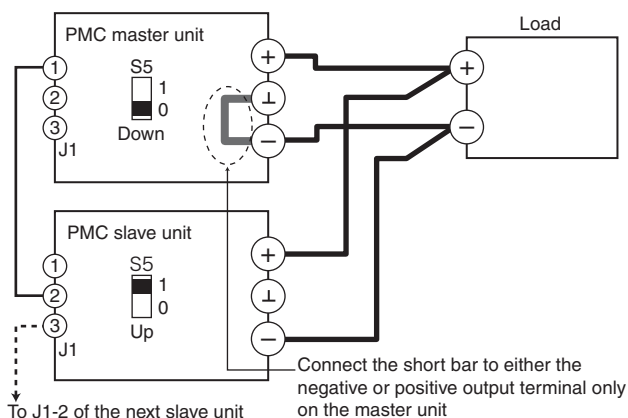

Fig. 4-3 Master-slave parallel connection and setup
4. Connect and set up each power supply as shown in Fig. 4-3. Set the S5 switch on all slave power supplies to the up (1) position.